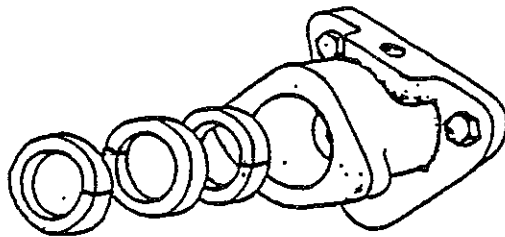

FIG 3 PACKING RINGS - SHOWING THE JOINT
- f Fit the following pieces of packing each at 180 deg. to the one preceding. (see Fig. 3)